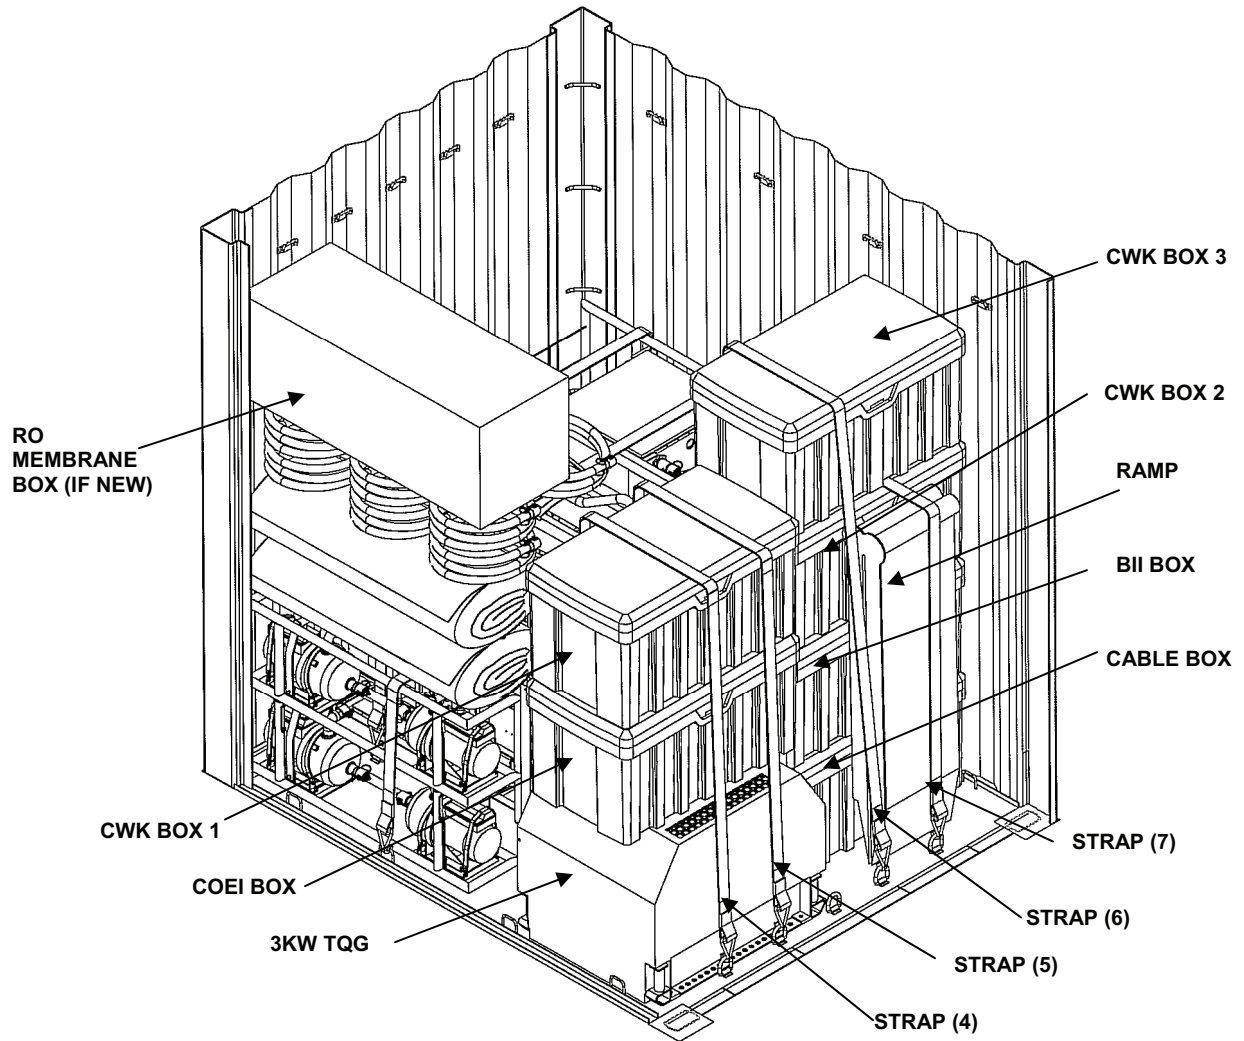

Figure 4. Loading TRICON (Third Phase).
15. Connect straps (4 and 5) on the D rings located on the floor immediately in front of the service pump module. These straps will be used to secure the TQG, COEI and CWK1 boxes. See Figure 4.
17. Load the 3kW TQG set to the front left side of the TRICON. See Figure 4.